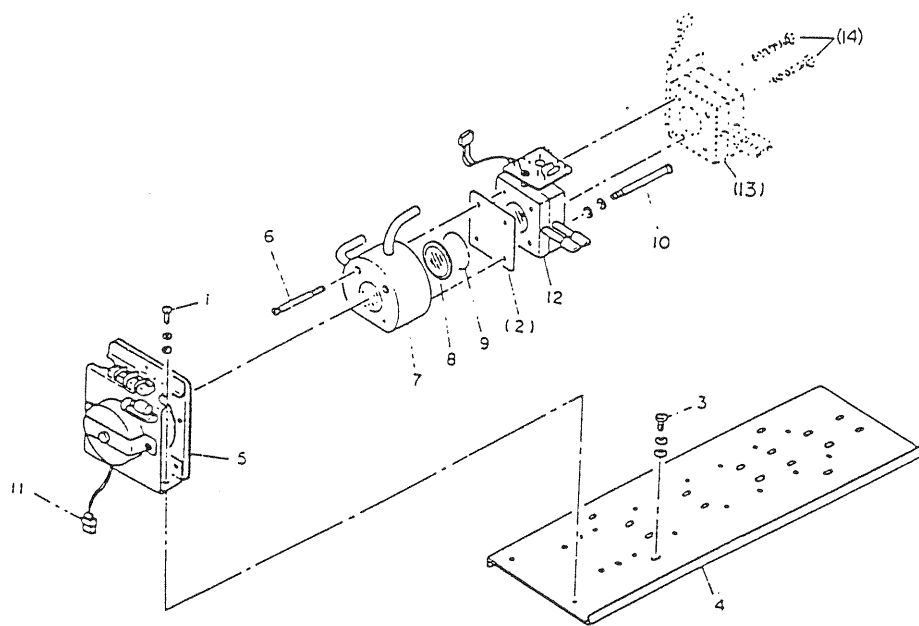

Fig.6.2 Exploded view of measuring unit
- (2) How to disassemble block cell(refer to Fig.6.2 next page)
- a. Proceed the same procedures described in a.~d. of (1)how to disassemble pipe cell.
In case of the dual components analyzer, remove connector of output cord of the 2nd component detector(No.13 in Fig.6.2) from the 2nd component printed cct. board, then remove the 2nd component detector by loosening 2 screws(No.14 in Fig.6.2).
- f. Loosen 2 screws(No.10 in Fig.6.2), with which the detector and the infrared source unit are mounted together, then remove the detector from the measuring unit.
- g. Remove the cell from the detector by loosening 2 fixing screws (No.6 in Fig.6.2).
A window(No.8 in Fig.6.2) on one side of block cell is not fixed but only inserted between detector and block cell, therefore hold the detector upside while disassembling not so as to drop the window down.